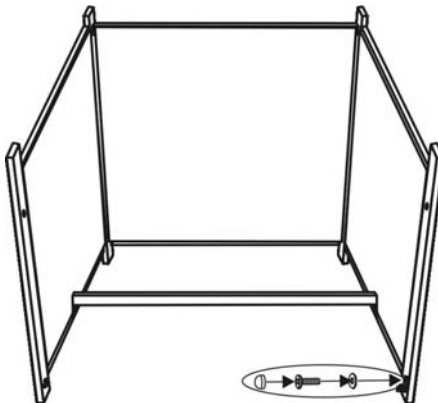

Figure 4
4. Attach the bottom connector to right side panel by using a 1/4"x15 mm bolt and washer as shown in Figure 4. Guide bolt through hole in bottom connector, into pre-drilled hole in the right side panel. **Do not over tighten.**